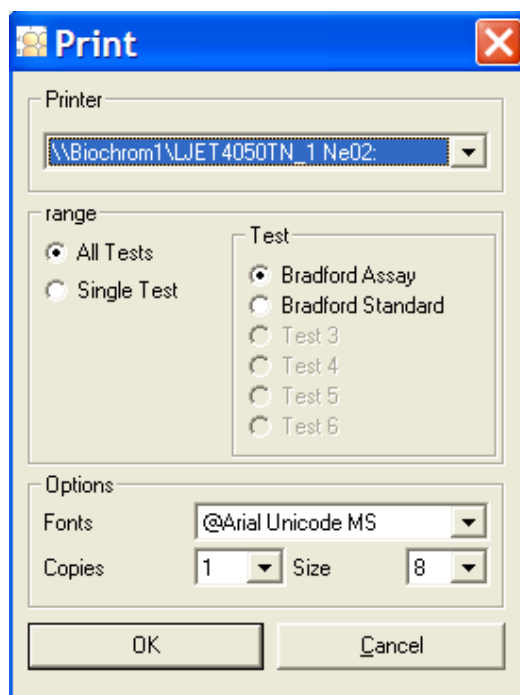

Figure 10-13: Print
1. From the Database menu, select **Print**. Print appears (Figure 10-13).